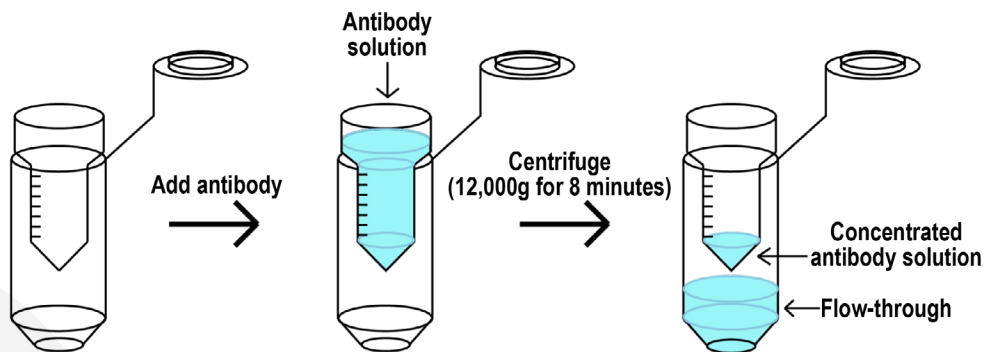

FIGURE 1. Experiment overview using 50 kDa MWCO filter unit.
3. Retrieve the following reagents from 4°C storage and bring to room temperature (RT):
5. Add 500 µL of Filter Blocking Solution to the top of each filter and centrifuge the filter units at 12,000 g for 2 minutes at RT. See Figure 1.